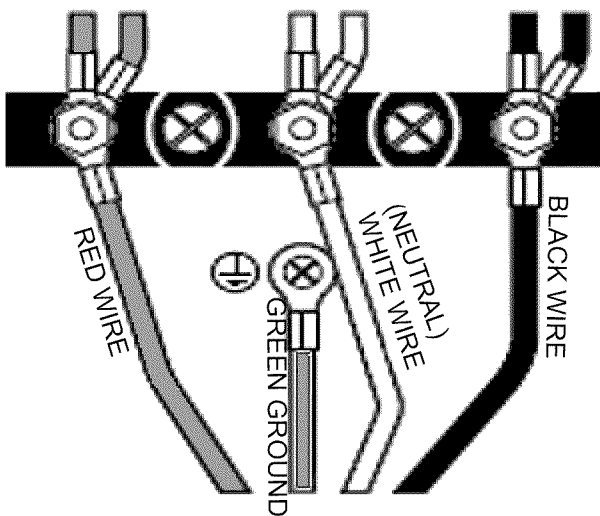

Figure 13: 4-Wire Connection
3. Secure the neutral, grounded wire of the supply circuit, to the center stud of the terminal block with nut (see *Figure 13*).